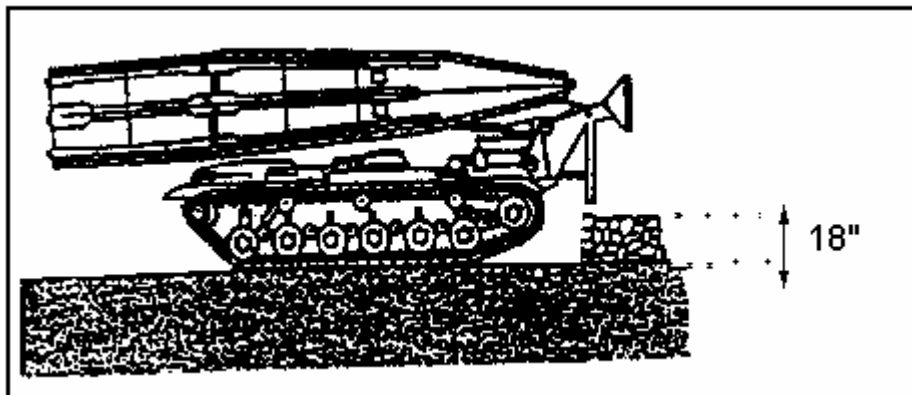

Figure 052-225-1213-1
3. Drive the AVLB over a steep obstacle (Figure 052-225-1213-1).